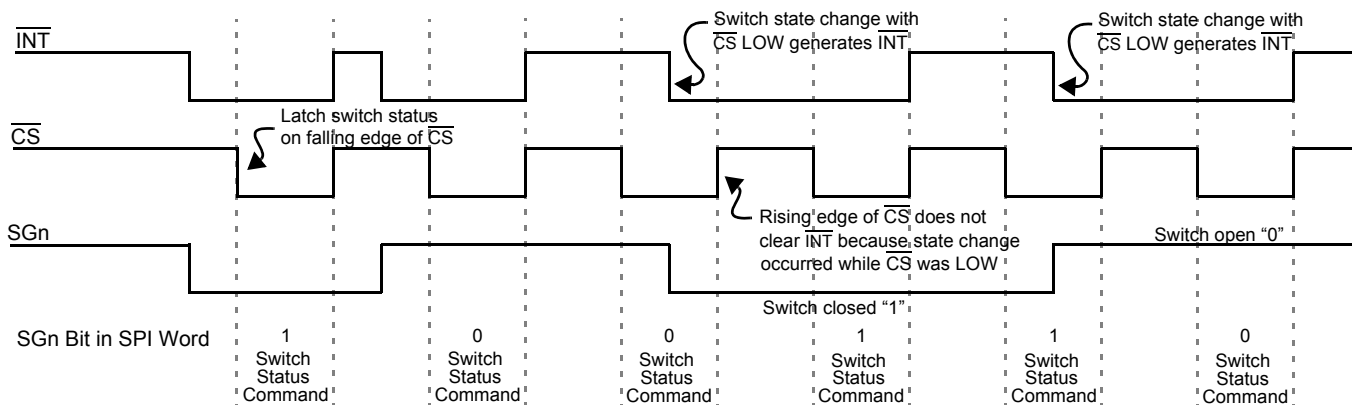

Figure 6. Normal Mode Interrupt Operation
2. \overline{INT} pin is reset to logic [1], except when additional switch changes occur during \overline{CS} LOW. (See Figure 6 on page 9.)
Figure 6, page 9, is a graphical description of the device operation in Normal mode. Switch states are latched into the input register on the falling edge of $\overline{\text{CS}}$. The $\overline{\text{INT}}$ to the MCU is cleared on the rising edge of $\overline{\text{CS}}$. However, $\overline{\text{INT}}$ will not clear on rising edge of $\overline{\text{CS}}$ if a switch has closed during SPI communication ($\overline{\text{CS}}$ LOW). This prevents switch states from being missed by the MCU.